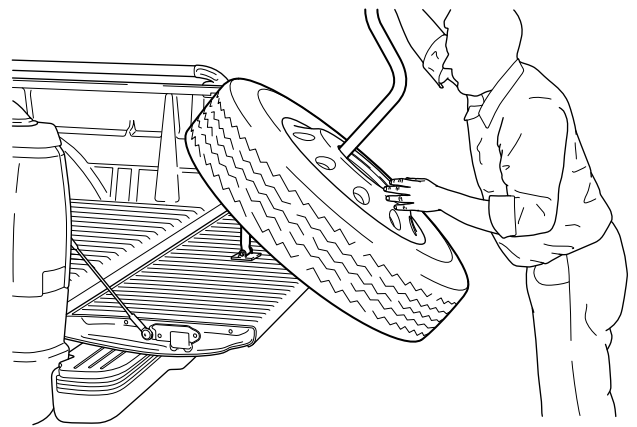

Figure 5
5. Lift the handle of the tool, and let the wheel slide down the tool until it is stable on the vehicle bed / tailgate. See Figures 5 and 6.